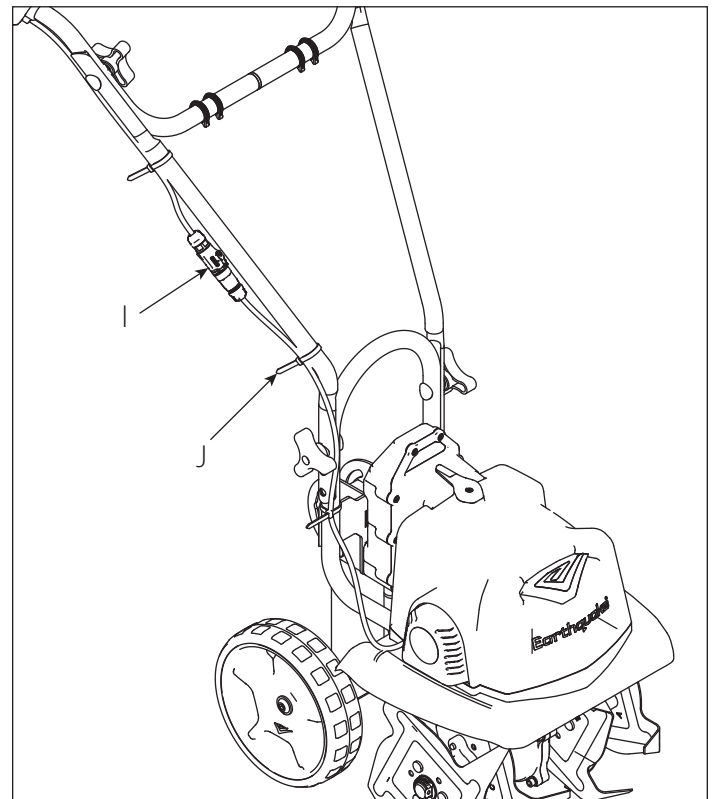

Figure 3
5. Four spare tine clips (H) are included. These can be installed into the four holes on the upper handlebar assembly.
6. Connect the control cable from the upper handlebar to the cable on the powerhead by joining the connectors (I) at each end of the cables. Use the three zip ties (J) to secure the cable along the handlebar sections. **SEE FIGURE 3**